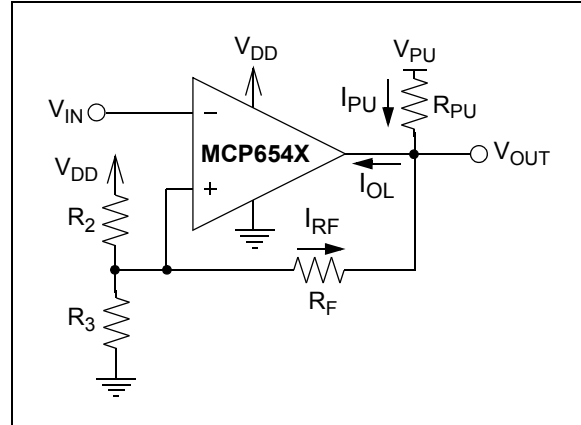
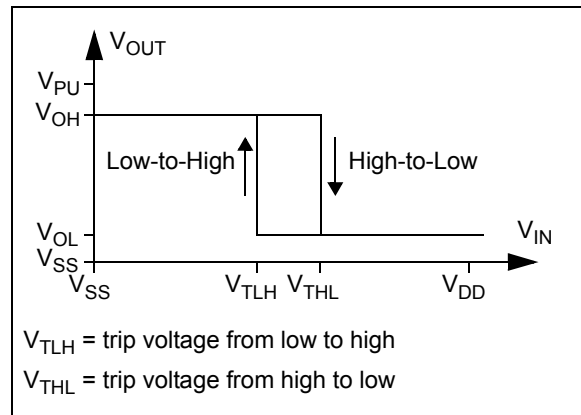
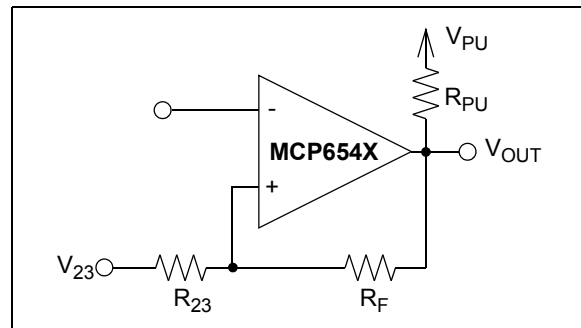

FIGURE 4-4: Inverting circuit with hysteresis.
FIGURE 4-5: Hysteresis diagram for the inverting circuit.
FIGURE 4-6: Thevenin Equivalent Circuit.
Figure 4-4 shows an inverting circuit for a single-supply application using three resistors, besides the pull-up resistor. The resulting hysteresis diagram is shown in Figure 4-5.
In order to determine the trip voltages (V_{THL} and V_{TLH}) for the circuit shown in Figure 4-4, R_2 and R_3 can be simplified to the Thevenin equivalent circuit with respect to V_{DD} , as shown in Figure 4-6.
Figure 2-21 and Figure 2-24 can be used to determine typical values for V_{OL} . This voltage is dependent on the output current I_{OL} as shown in Figure 4-4. This current can be determined using the equation below:
1. Inverting Configuration (Figures 4-4 and 4-7):